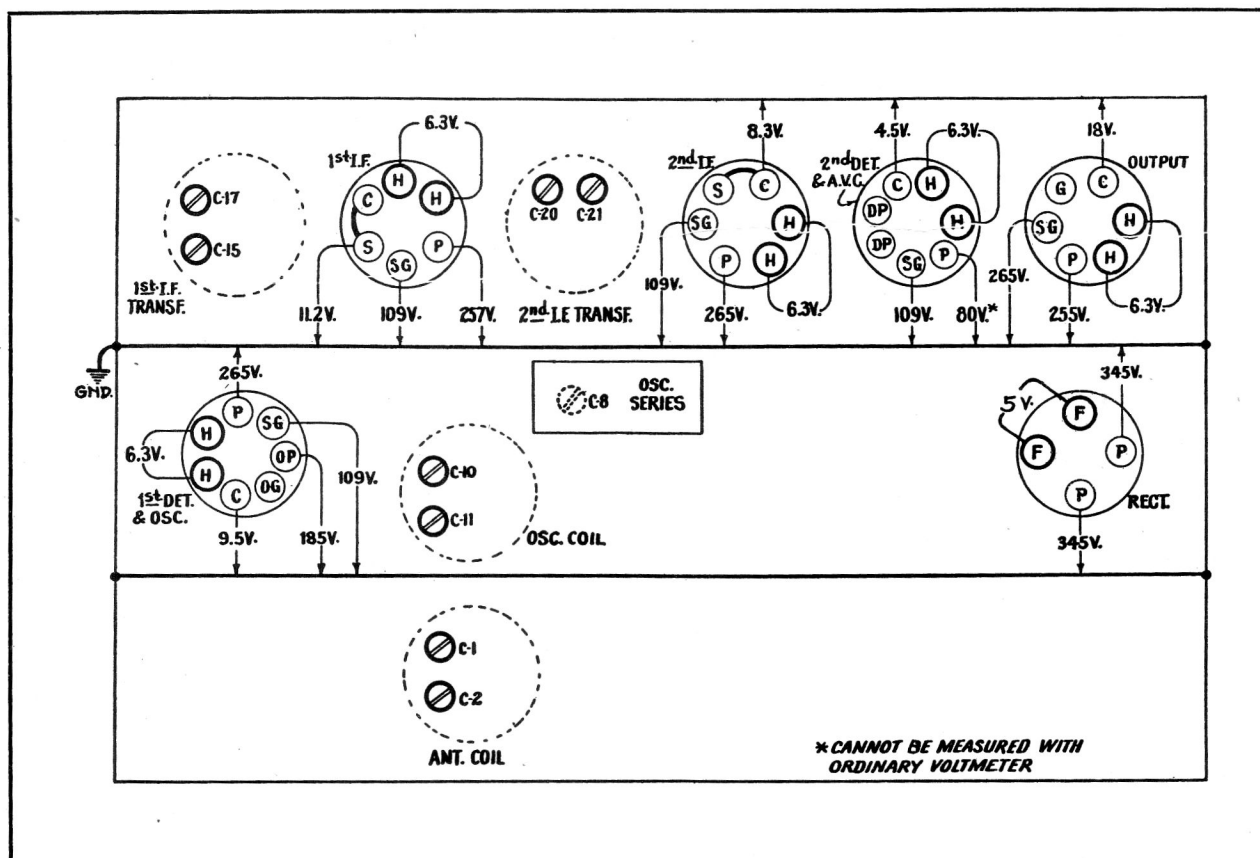

Figure 2—Trimmer Locations and Radiotron Socket Voltages to Ground
The four i-f trimmer screws shown on Figure 2 must be tuned to 460 kc., as explained below:-
The trimmer capacitor locations for the r-f and oscillator stages are indicated on Figure 2. There adjustments should be performed as follows:
- With the external oscillator tuned to 1720 kc., and its output adjusted for the critical minimum at full volume control, set the station selector to the 1720 scale marking. Turn the range switch to its right position and adjust the trimmers C10 and C11 on Figure 2 to give maximum
Refer to Figure 2. The voltages indicated at the various socket contacts are measured to the chassis. They represent the values which apply to a receiver in normal operating condition at the specified supply voltage. At other voltages, a consistent difference will be perceptible for all readings. Such a general